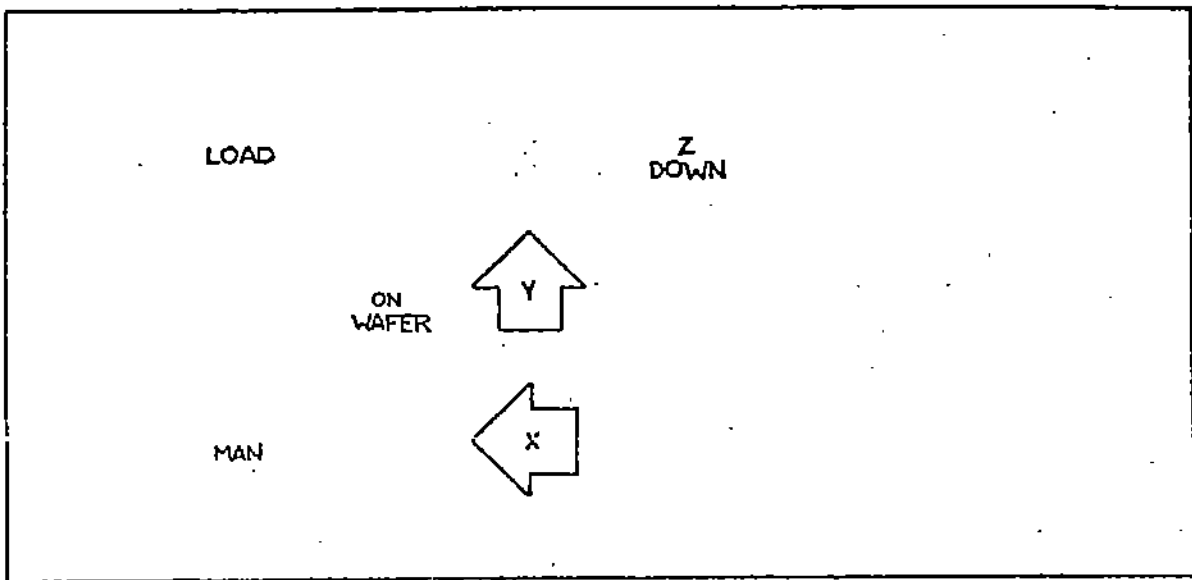

Figure 2-6. Display Panel
- b. Verify Status Display Panel agrees with Figure 2-6.
- d. Verify Status Display Panel agrees with Figure 2-6.